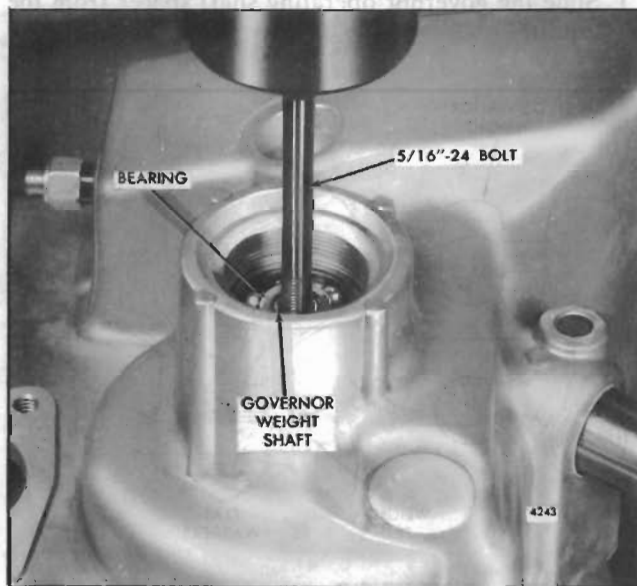

Fig. 8 - Removing Governor Weight Shaft Assembly from Governor Housing
- d. Thread a 5/16"-24 x 3" bolt into the bearing retaining bolt hole. Support the governor housing on the bed of an arbor press and press the governor weight shaft from the bearing as shown in Fig. 8.